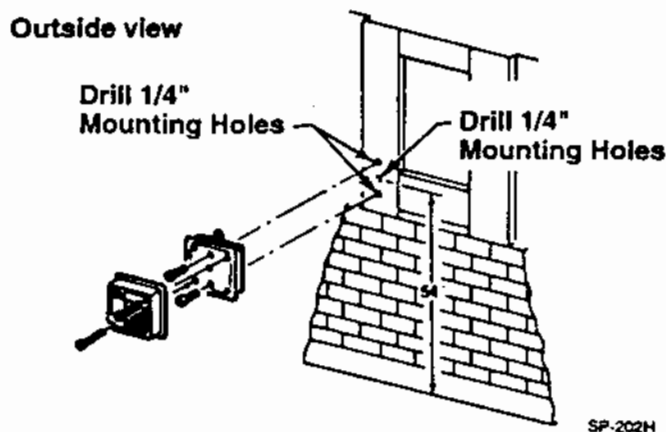

Figure 2.
3. If no cable hole exists in the mounting surface, drill a 1/4-inch cable hole at the desired location. Figure 2 shows a typical pickup window mullion.
6. Attach the housing to the mullion with 10-32 x 3/4-inch screws and nuts. Refer to Figure 2.